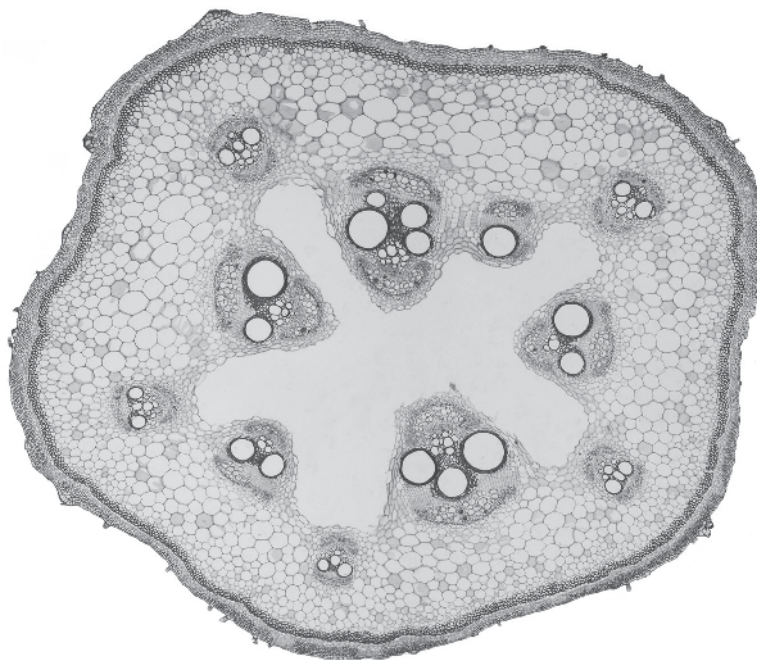
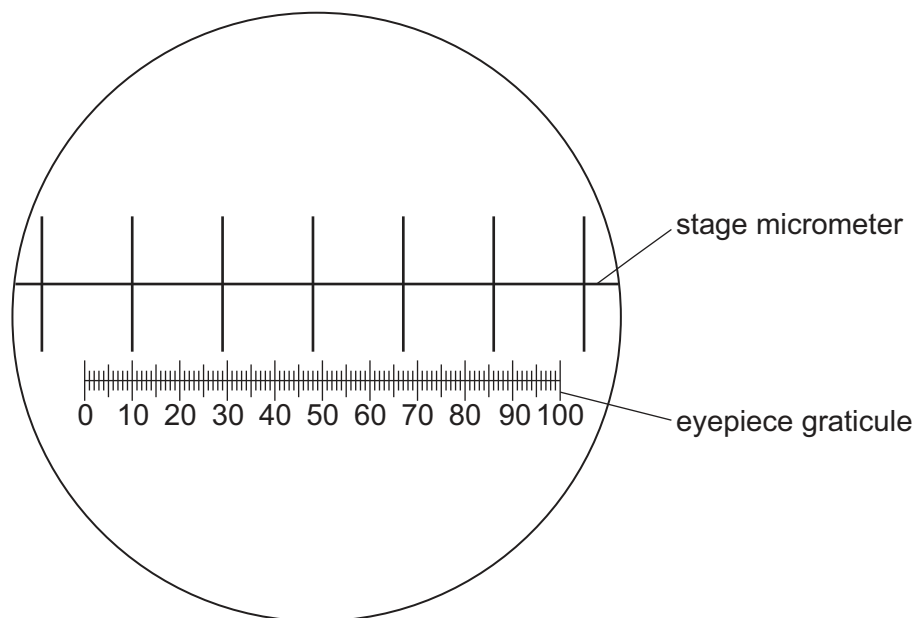
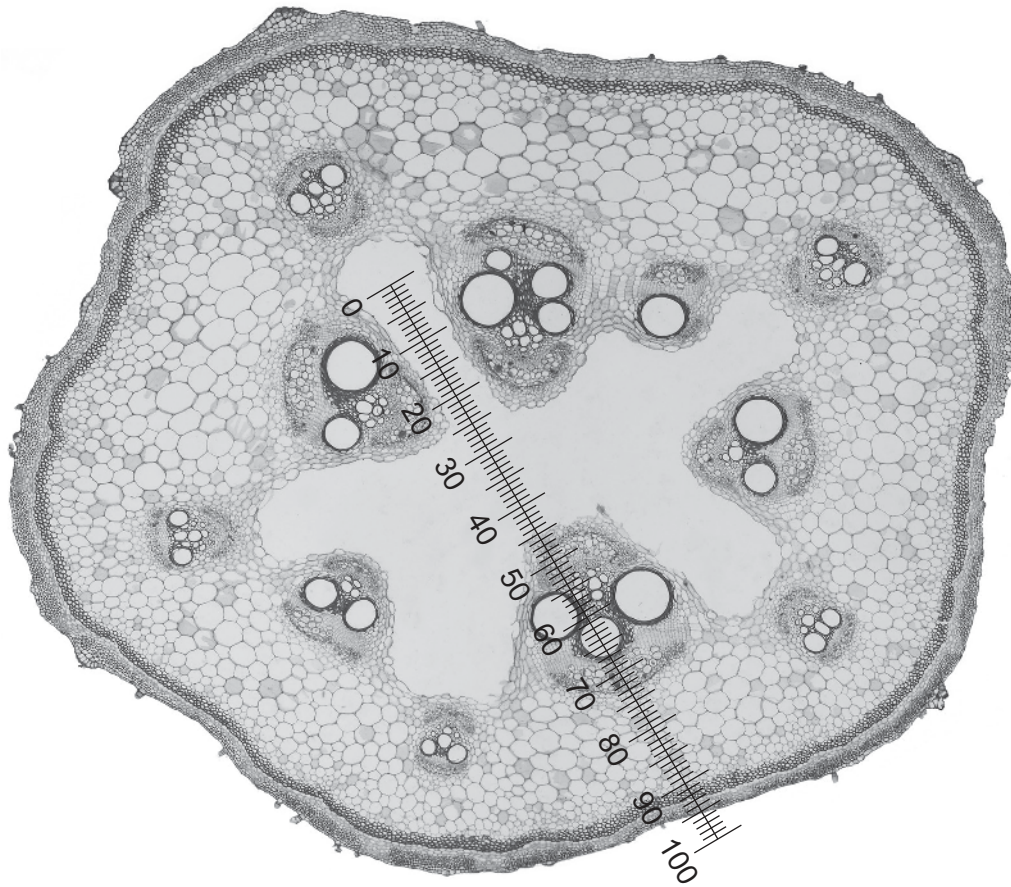

Fig. 2.2
Fig. 2.3
Fig. 2.4
- (b) Fig. 2.2 is a photomicrograph of a stained transverse section of a stem from a different plant to M1.
Identify **three** observable differences, other than colour, between the stem section on M1 and the stem section in Fig. 2.2.
- (c) Fig. 2.3 shows a photomicrograph of a stage micrometer scale that is being used to calibrate an eyepiece graticule.
The length of one division on the stage micrometer in Fig. 2.3 is 1.0 mm.
- (i) Calculate the actual length of one eyepiece graticule unit shown in Fig. 2.3.
- (ii) Fig. 2.4 is the same photomicrograph as that shown in Fig. 2.2. This was taken with the same microscope and the same lenses used to take the photomicrograph in Fig. 2.3.
Use the calibration of the eyepiece graticule unit from **(c)(i)** to calculate the actual length of the vascular bundle in Fig. 2.4.